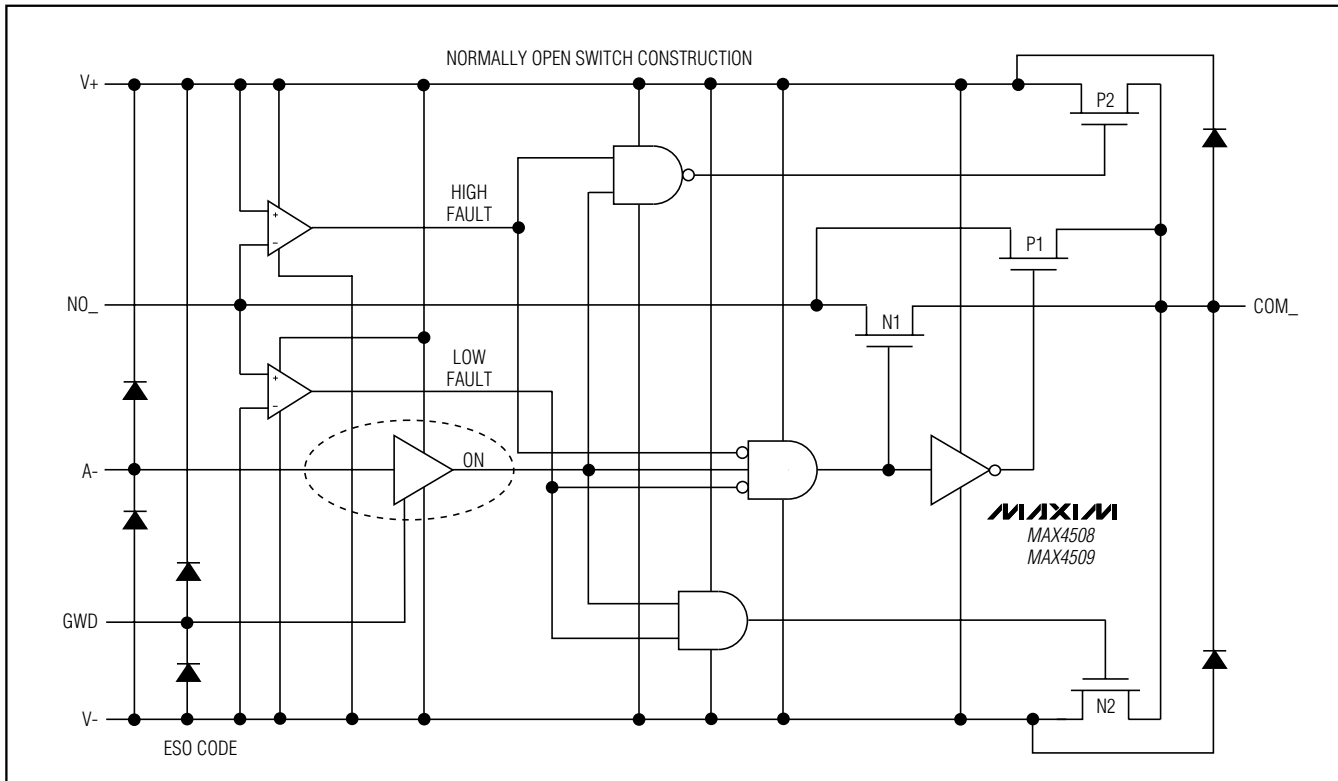

Figure 1. Functional Diagram
Figure 1 shows the internal construction, with the analog signal paths shown in bold. A single normally open (NO) switch is shown. The analog switch is formed by the parallel combination of N-channel FET N1 and P-channel FET P1, which are driven on and off simultaneously, according to the input fault condition and the logic level state.
Two comparators continuously compare the voltage on the NO₋ pin with V₊ and V₋ supply voltages. When the signal on NO₋ is between V₊ and V₋, the multiplexer behaves normally, with FETs N1 and P1 turning on and off in response to A₋ signals (Figure 1). The parallel
When the signal on NO₋ exceeds V₊ by about 150mV, the positive fault comparator output goes high, turning off FETs N1 and P1 (Figure 1). This makes the NO₋ pin high impedance, regardless of the switch state. If the switch state is “off,” all FETs turn off, and both NO₋ and COM₋ are high impedance. If the switch state is “on,” FET P2 turns on, clamping COM₋ to V₊.
When the signal on NO₋ goes about 150mV below V₋, the negative fault comparator output goes high, turning off FETs N1 and P1 (Figure 1). This makes the NO₋ pin high impedance, regardless of the switch state. If the switch state is “off,” all FETs turn off, and both NO₋ and COM₋ are high impedance. If the switch state is “on,” FET N2 turns on, clamping COM₋ to V₋.
FETs N2 and P2 can source about ±10mA from V₊ or V₋ to the COM₋ pin in the fault condition (Figure 1). Ensure that if the COM₋ pin is connected to a low-impedance load, the absolute maximum current rating of 30mA is never exceeded, either in normal or fault conditions.